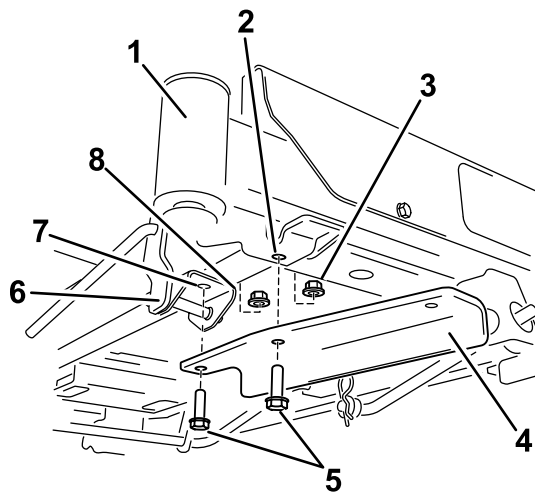

Figure 7
- For machines with a foot-assist lift pedal, remove the front fasteners in the foot-assist lift pedal bracket and secure the bracket using 2 bolts and 2 locknuts (Figure 7).